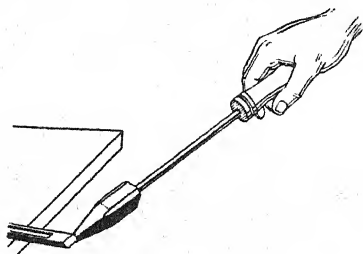

Figure 99. — Picking up solder.
7. Pick up solder with the copper (see figure 99).